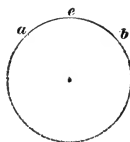

FIG. 12.
**30.** An *arc* of a circle is any part of its circumference; thus  $a e b$ , Fig. 12, is an arc of the circle.